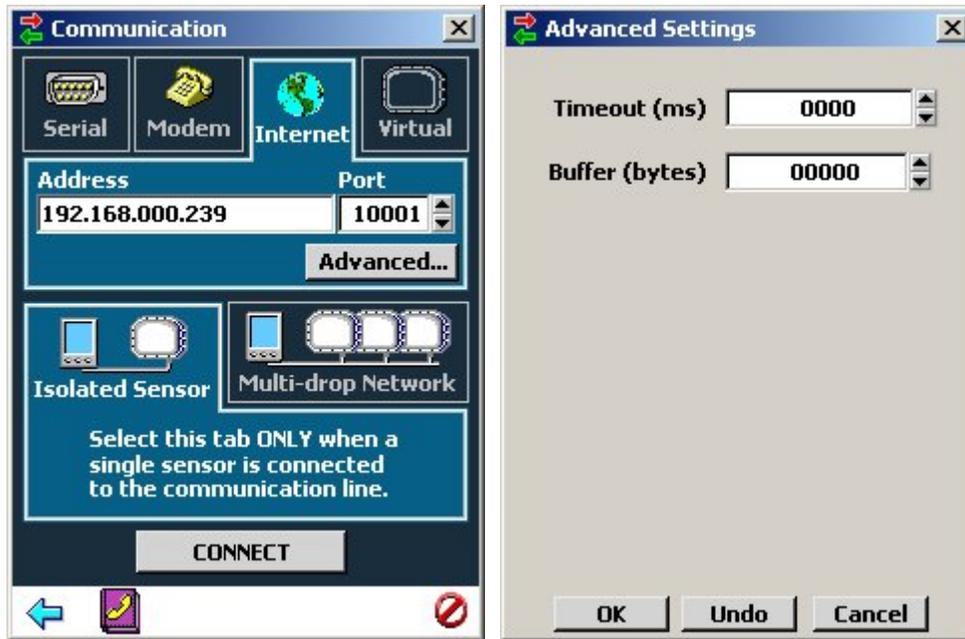

Figure 18 & 19 – Internet Connection and Advanced Settings
2. Click the **Internet** tab and the Internet setting options will appear (see Figure 18).